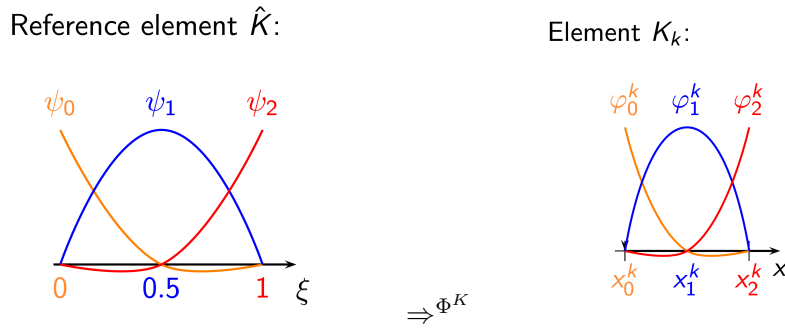

Figure 1: Shape functions on a reference element $\hat{K}$, and the corresponding basis functions on the physical element K_k .
- Define a reference element $\hat{K} = [0, 1]$, and define the shape functions $\Psi_i \in \mathbb{P}_2$ on $\hat{K}$. Choose those such that $\Psi_\alpha(\xi_\beta) = \delta_{\alpha,\beta}$ for $\xi_\beta \in \{0, 1/2, 1\}$, see Figure 1. Define a mapping $\Phi_K : \hat{K} \rightarrow K_k$, and a local to global mapping $i = \theta(k, \alpha)$.